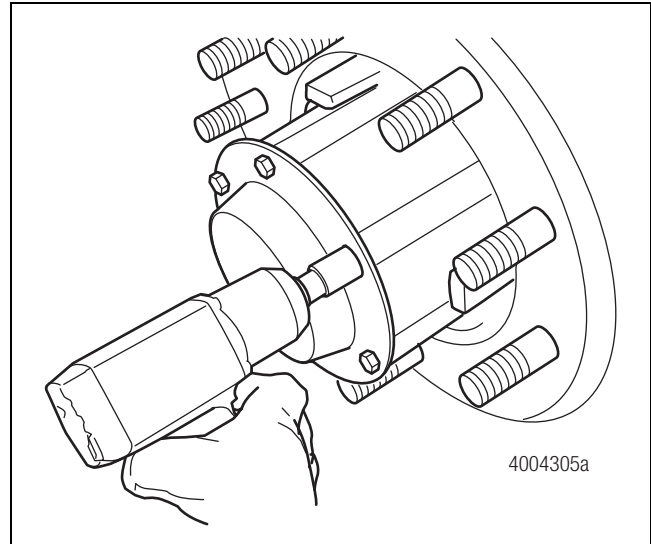

Figure 4.34
12. Install the hubcap by tightening the capscrews to 10-15 lb-ft (13-20 N•m) in a crisscross pattern. Use a new hubcap gasket. Figure 4.34.